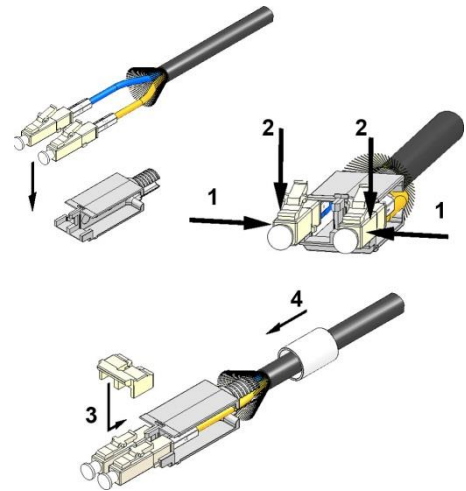

Figure 24
- 7.1. Place the assembled connectors into the frame. Press with the clamping insert on the latches of the connectors and fix the insert into the frame by pushing with an audible click (figure 24).